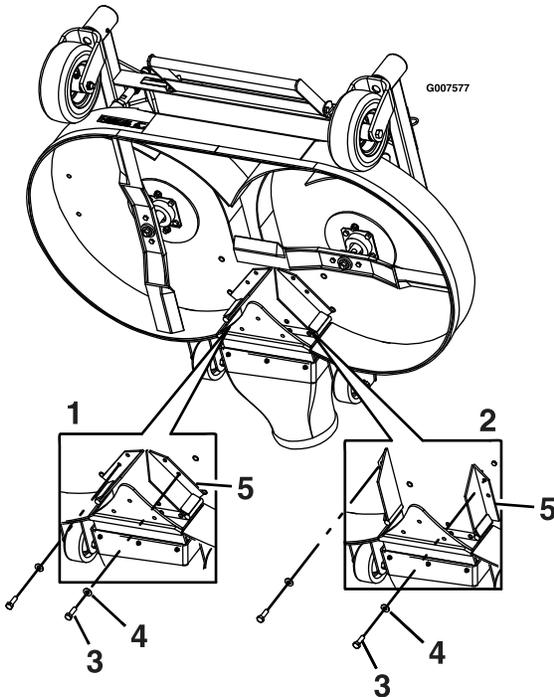

Figure 15
7. Remove the bolt and washer at the front of each FRS baffle (Figure 15).